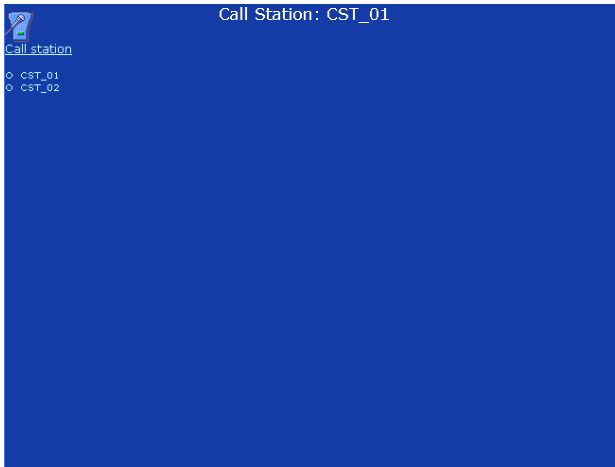

figure 38.52: Local BGM source, step 1
- 1 Go to *Configure > Action Programming > Call station*. A screen similar to the one in figure 38.52 appears in the main frame of the web interface.